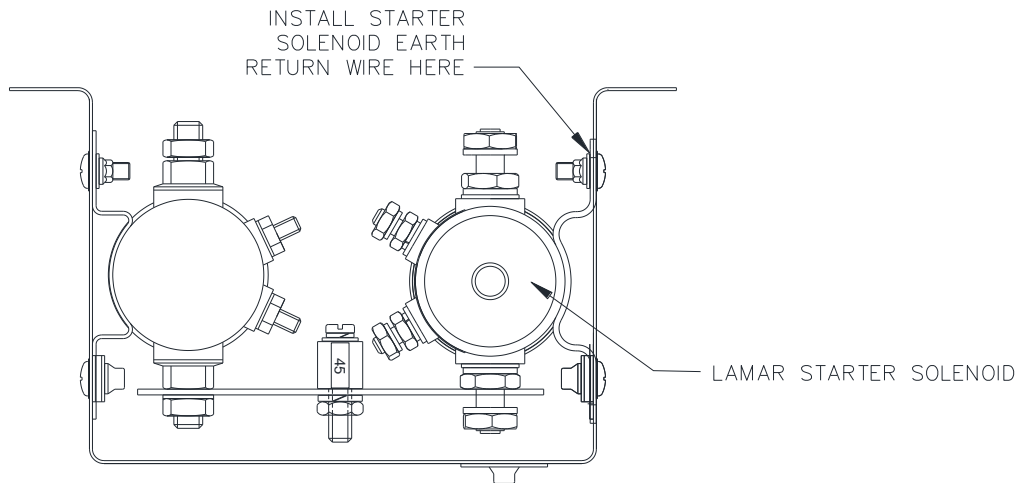
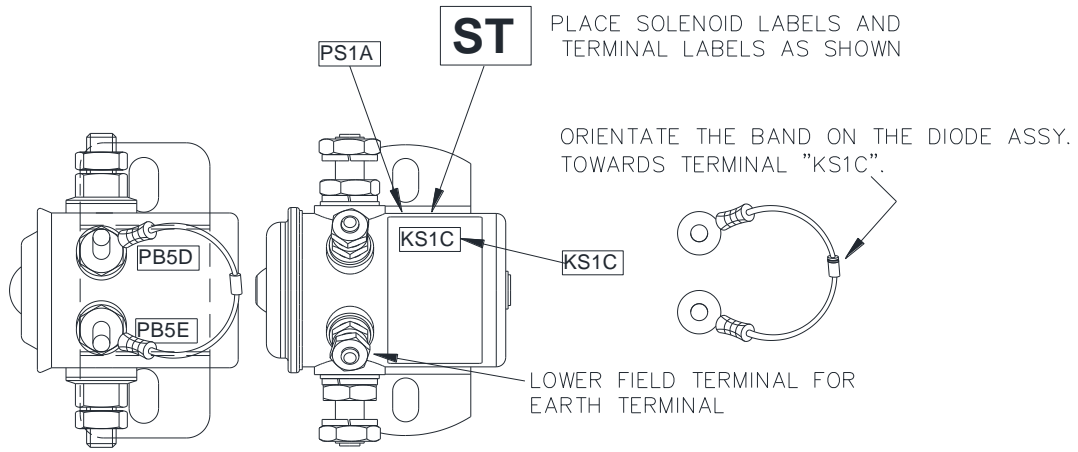
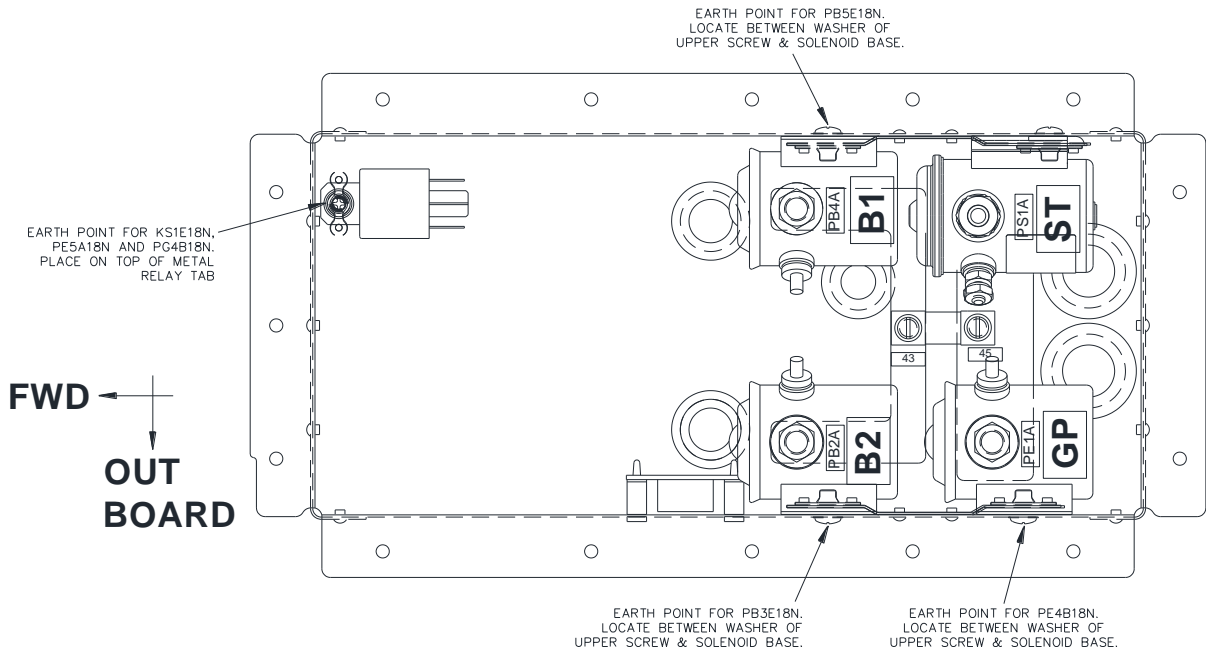

Figure 11 – Side view showing earthing point for starter solenoid to the box.
Figure 12 - Location for placement of solenoid starter earth return.
Figure 13 – Earth point locations
- 1.5.2 Fabricate and apply labels to the Starter Solenoid as shown in Figure 12 & Figure 13. Alternately, the part may be marked directly using indelible means.
- 1.5.6 This wire shall be placed in the locations as directed by Figure 11 & Figure 12.
- 1.5.7 An additional earth wire is installed which has been denoted PE5A18N. Install this to the solenoid box as noted in Figure 13. The other end of this wire will be terminated after the solenoid box has been re-installed in the aircraft.